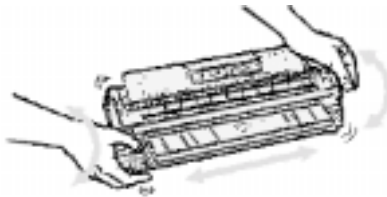

Figure 19. Rotating The Cartridge
2. Remove the toner cartridge from its packaging. Rotate the cartridge as shown in Figure 19 and gently shake it from side to side to distribute the toner evenly inside the cartridge.